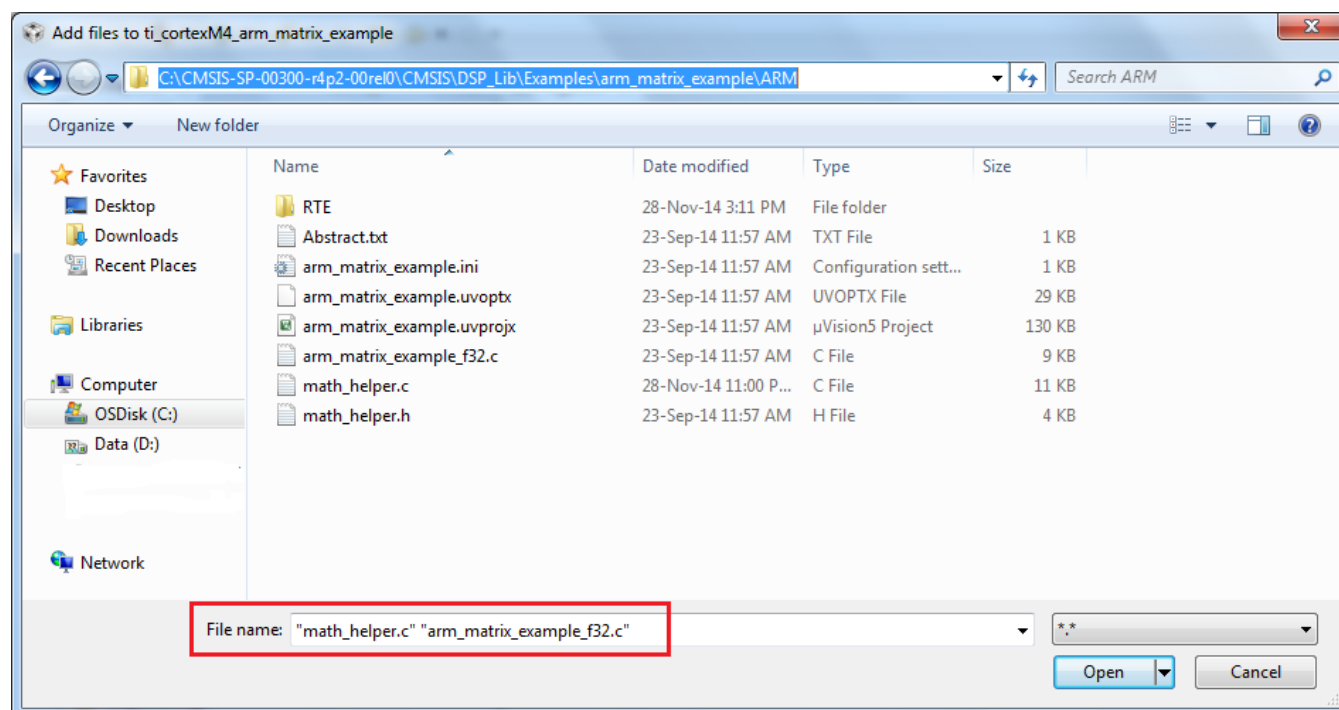

Figure 15. Adding the Source Files for arm_matrix_example to the Project
2. Navigate to the CMSIS-<version>/CMSIS/DSP_Lib/Examples/<example> directory. Select all of the C source file and click **Open** (see Figure 15).